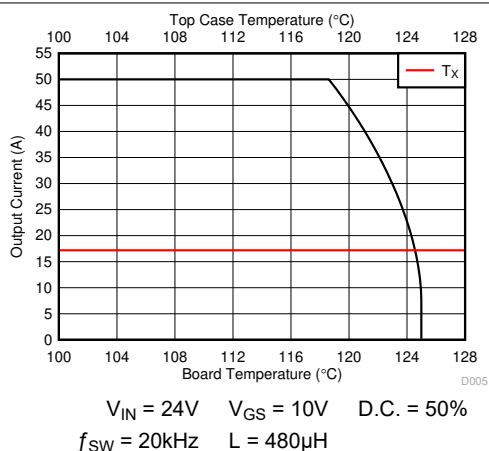

Figure 4-3. Typical Safe Operating Area
The SOA curve in Figure 4-3 provide guidance on the temperature boundaries within an operating system by incorporating the thermal resistance and system power loss. This curve outlines the board and case temperatures required for a given load current. The area under the curve dictates the safe operating area. This curve is based on measurements made on a PCB design with dimensions of 4in (W) × 3.5in (L) × 0.062in (H) and 6 copper layers of 2oz copper thickness.